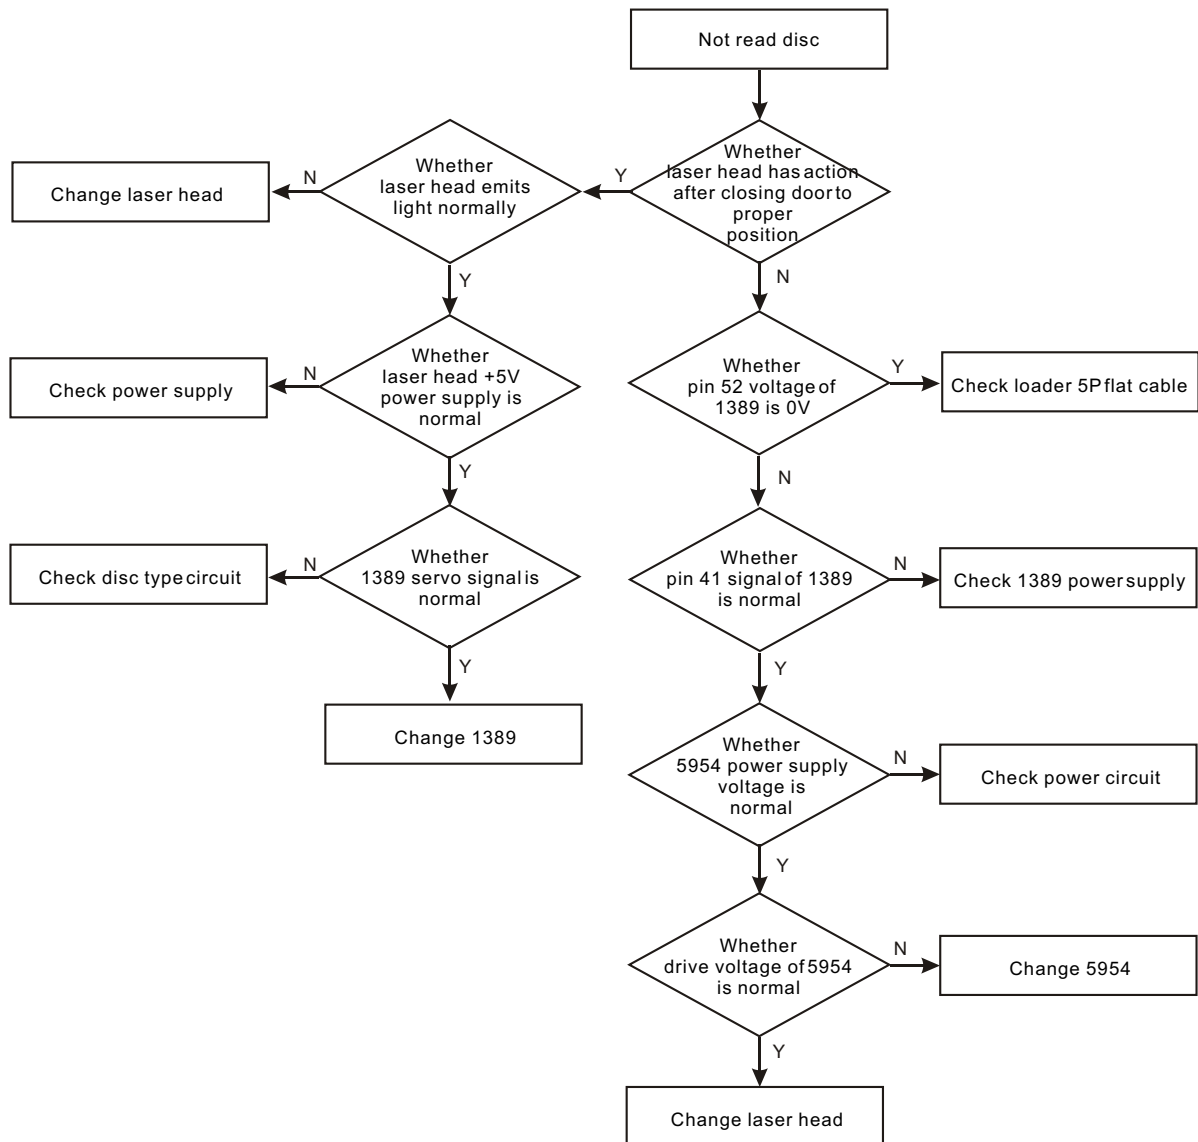

Figure 3.3.2.5 Troubleshooting flow chart for “Notread disc”
6. Troubleshooting process for “Power not on for the player” is shown in the figure 3.3.2.6: